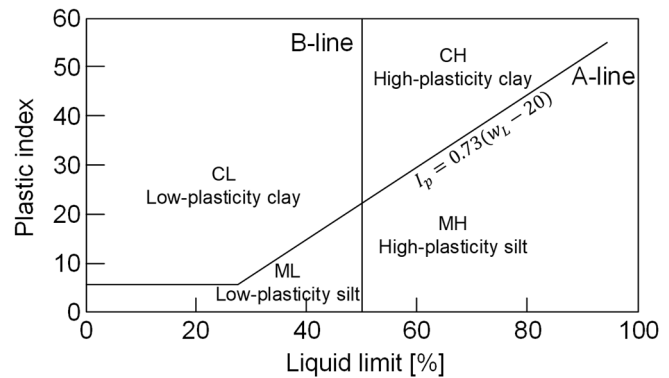

Fig.2 Plasticity chart
- (1-3) Answer the most appropriate engineering classification for the fine-grained soil sample using the plasticity chart as shown in Figure 2,
- (2) Explain the following terms using the keywords in parentheses ().